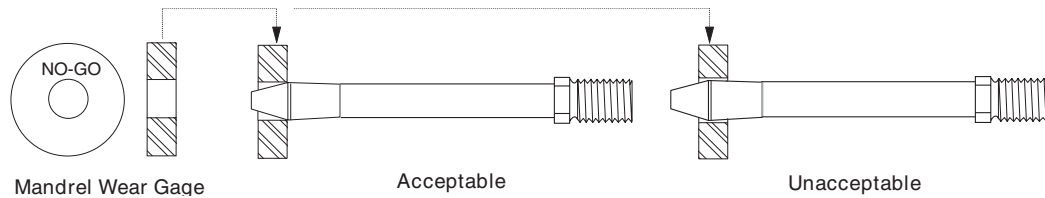

Figure 3-04 — Checking a Mandrel with the Mandrel Wear Gage
3.8 **Mandrel Wear Gage** - The mandrel wear gage is used to check the mandrel major diameter for excessive wear prior to the coldworking operation. Failure to check the mandrel could result in holes not being coldworked to the correct expansion level. Ref. Fig. 3-04.